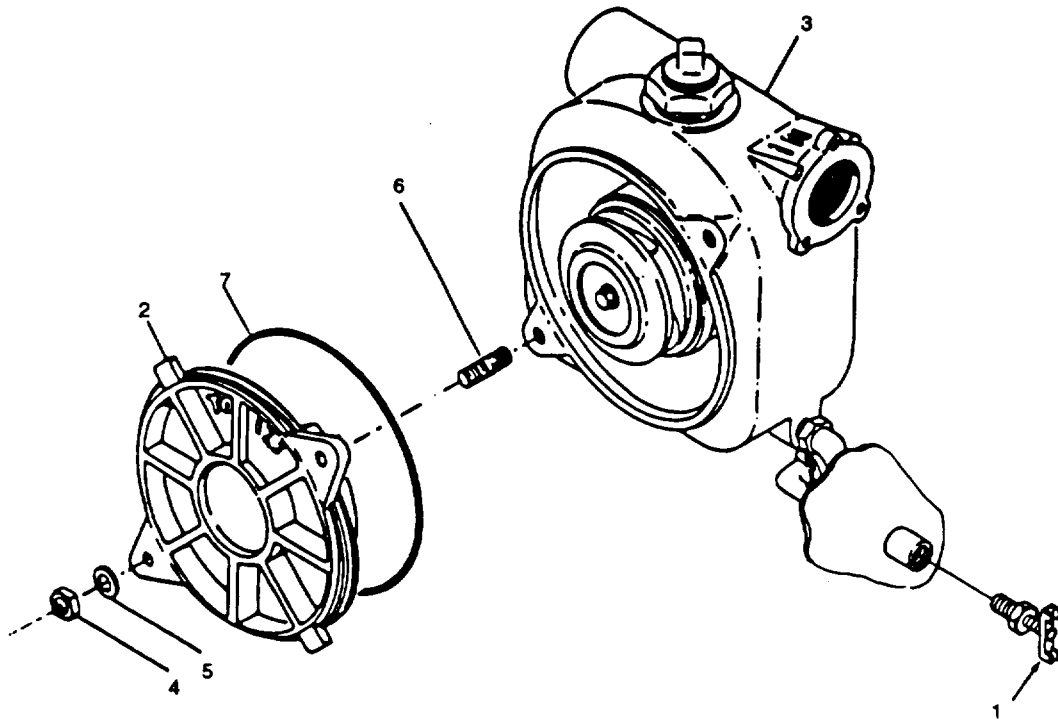
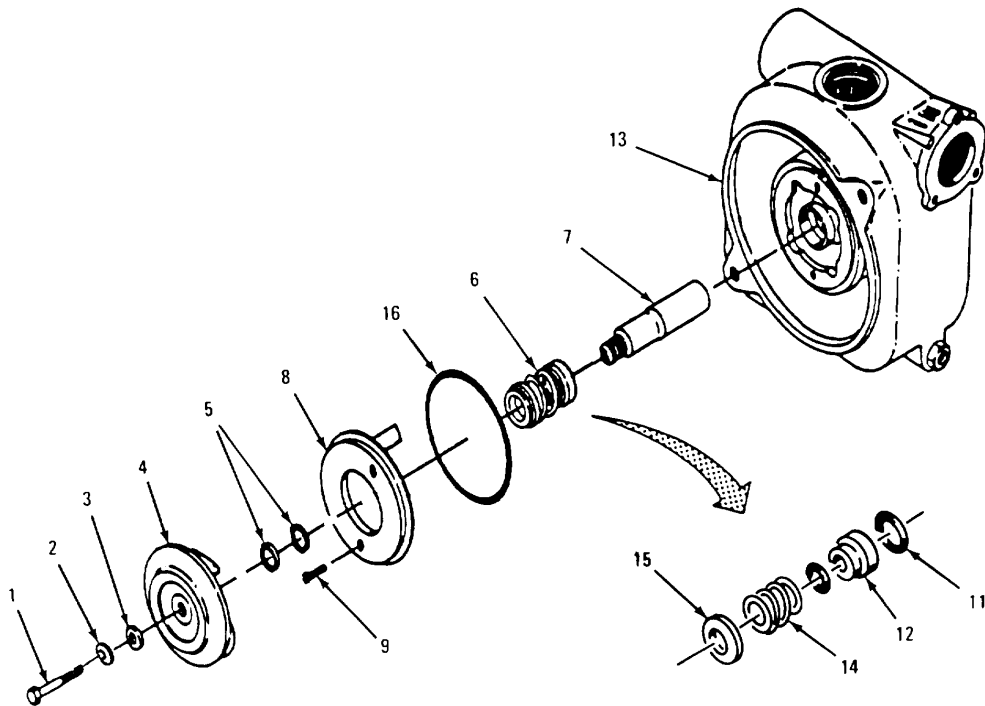
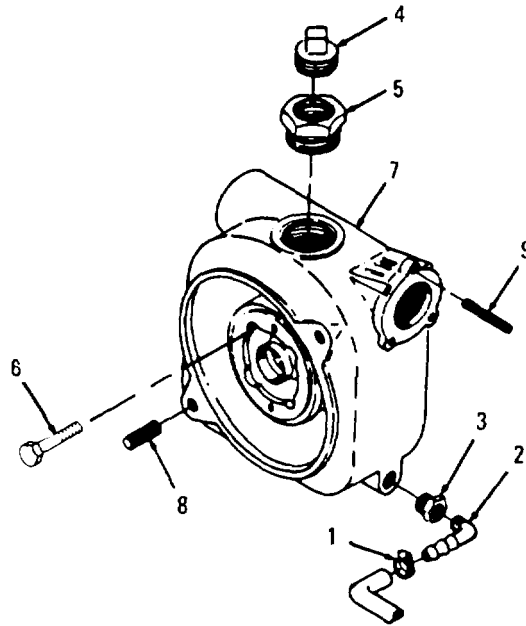

Figure 5-2. Volute
Figure 5-3. Replacing impeller, Shaft Seal, and Shaft Adapter
Figure 5-4. Pump Casing Assembly
(3) Refer to Figure 5-2. Completely drain the pump casing (3) into a suitable container by opening pump fluid drain cock (1).
(4) Remove volute cover (2) from pump casing (3) by removing two hex nuts (4) and washers (5) from pump casing studs (6).
(5) Remove and discard O-ring (7).
Refer to Figure 5-3.
- (1)Clean all flow passages of volute cover.
- (2)Blow out difficult to reach areas, inside of volute cover and pump casing, with compressed air, if necessary, to remove deposits.
- d. Installation. (Refer to Figure 5-3).
- (1)Assemble stationary seat (11) into rubber boot (12) and install into pump casting (13).
- (2)Slide shaft adapter (7) into pump casing (13), lining up the keyway and slot in the shaft adapter (7), until it is settled.
When replacing seal, also replace volute O-ring (refer to Item 7, Figure 5-2), wear plate O-ring (8, Figure 5-3), and four self-sealing screws (6, Figure 5-4).
(Refer to Figure 5-2)
a. Removal. Refer to Figure 5-4
- (1) Remove hose clamp (1) and hose, elbow (2), and bushing adapter (3).
- (2) Remove pipe plug (4) and bushing adapter (5).
- (3) Remove and discard four self-sealing screws (6).
- (4) Separate pump casing (7) from engine.